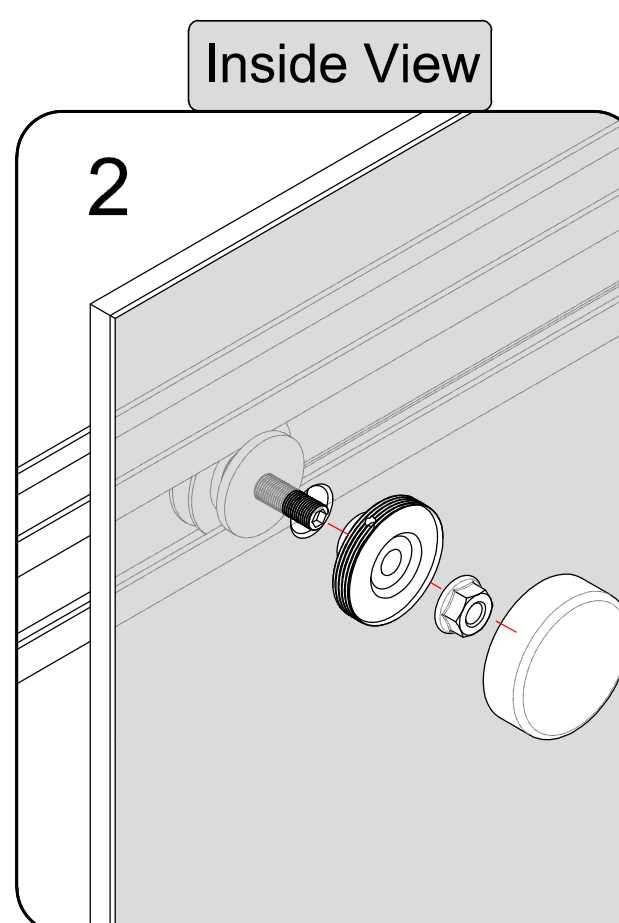

Fig.2
2. Remove the cap and screw from the **Rollers (K)** and attach the **Rollers (K)** to the **Inside Door Panel(L)**. Fig2